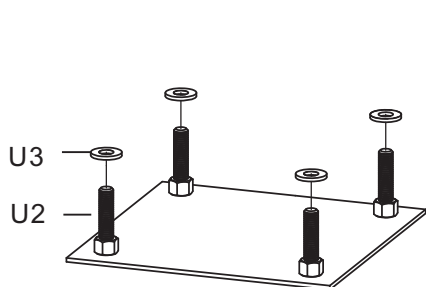

FIGURE 1A
- Slide a 16mm Thick Washer (U3) over each of the J-Bolts (U2) as shown in FIGURE 1A.